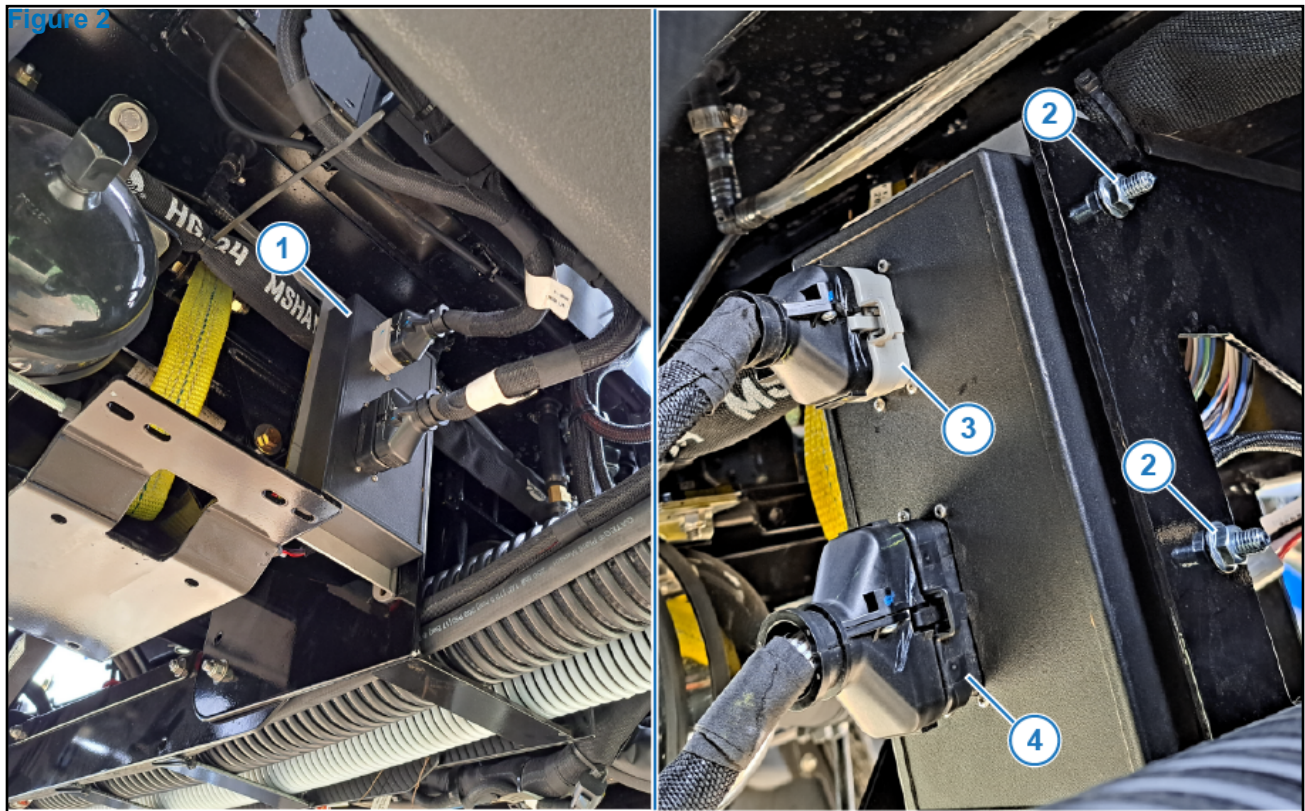

Figure 2: RCM Adapter Location
4. Install the RCM Adapter (P/N:) (Figure 2, Item 1) using the existing holes in the machine frame and the included hardware (Figure 2, Item 2).
5. Plug the J1 (Figure 2, Item 3) and J3 (Figure 2, Item 4) into the RCM Adapter as shown.